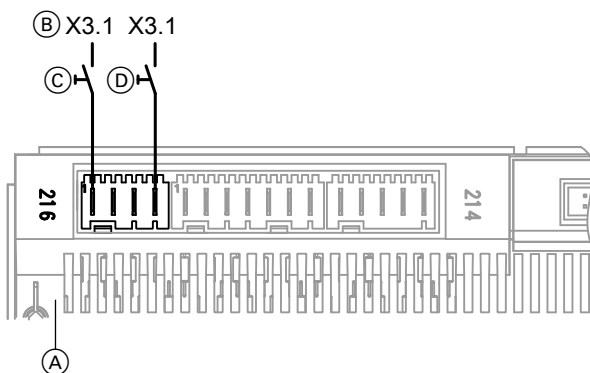

Fig. 52
- To the heat pump control unit as shown in Fig. 52